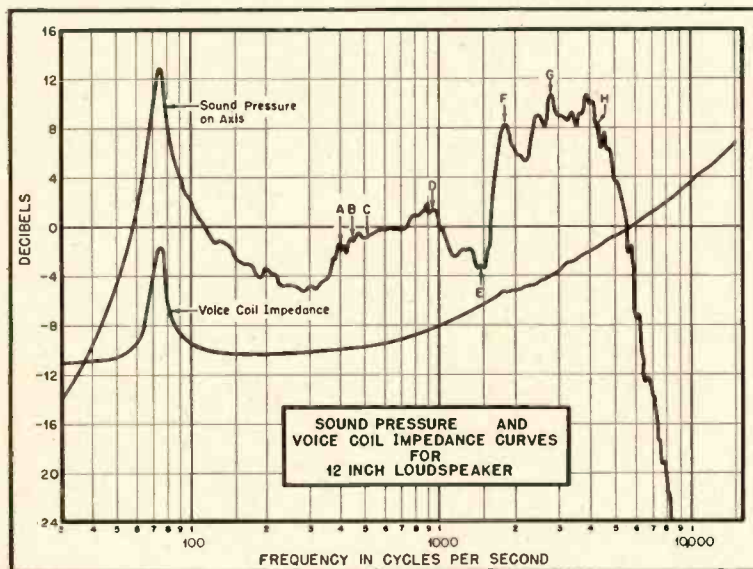

Fig. 8. Sound-pressure and voice-coil impedance curves for a 12-inch loudspeaker.
The sound pressure curve of a standard 12-inch speaker is shown by Fig. 8. The low-frequency resonance occurs at 75 cps, the usual rim resonance occurs in the region between 1200 and 1500 cps, and there is peaking of about 8 db in the upper register. The upper frequencies cut off rather rapidly beyond 6000 cps. The voice coil impedance shows the main resonance at 75 cps. The higher
Figure 9(A) corresponds to point  $A$  of Fig. 8 and was made by sprinkling lycopodium powder on the cone. The frequency was then set near the low-frequency resonance of the cone, which caused the powder to climb up the cone and distribute itself uniformly. The frequency was then raised to 400 cps and left there. The light yellow powder was shaken off of the moving parts of the
When the frequency is raised to 450 cps, there are eight radial nodes, symmetrically spaced as shown by Fig. 10(A). This corresponds to point B of Fig. 8. There is little effect on the sound pressure curve because the antinodes merely pump air across the nodes.
Fig. 11(A), corresponding to point C of Fig. 8, is somewhat unsymmetrical and apparently is a mixture of two normal modes. The one wide node apparently is moving slightly in the center. The corresponding transient response is shown by Fig. 11(B). The 75-cps oscillation is superimposed as before, and there is considerable beating between transients just after cutoff.